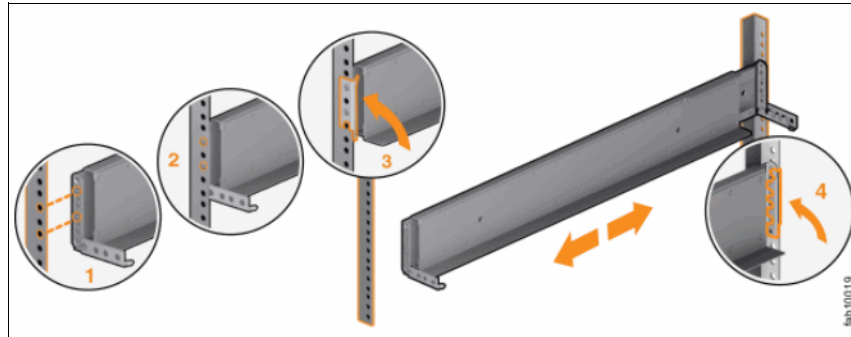

Figure 6-33 Closing the rail hinge brackets
8. Close the rear hinge bracket **4** to secure the rail to the rack cabinet flange. See Figure 6-33.
10. Close the front hinge bracket **3** to secure the rail to the rack cabinet flange. See Figure 6-33 on page 190.